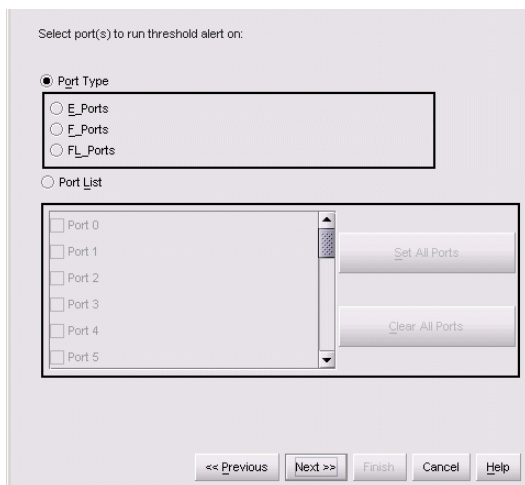

Figure 48 New Threshold Alerts dialog box - third screen (Edge Switch 2/24)
9. Click **Next**. A new screen displays for choosing ports for the alerts, as shown in Figure 48.